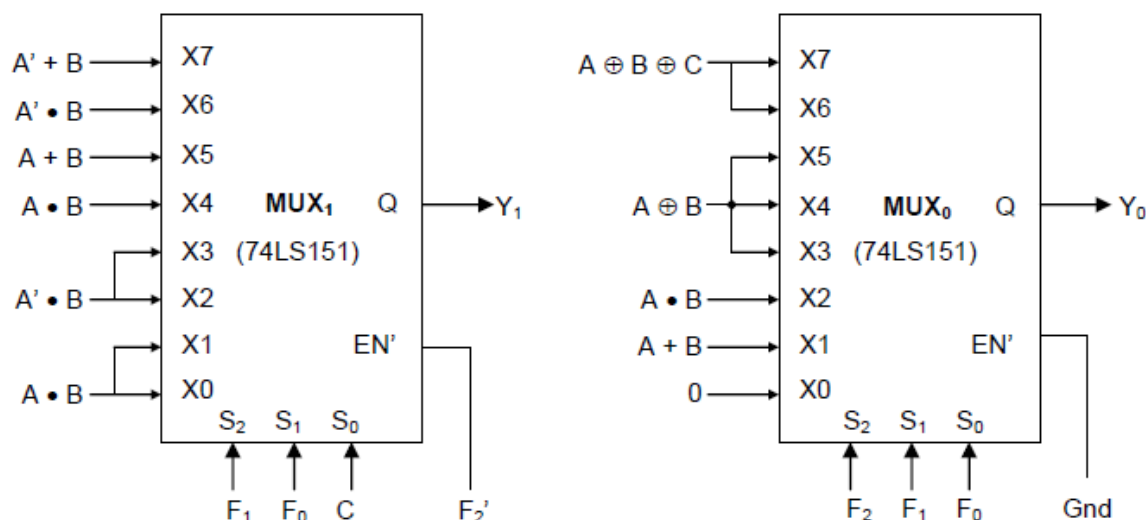

Fig. 3.2 Input connections for **MUX₀** and **MUX₁**
2. The final ALU output bits Y_0 and Y_1 will be generated by the two 8-input multiplexers – referred to as **MUX₀** and **MUX₁** respectively. The required data, select and output enable inputs of **MUX₀** and **MUX₁** are shown in **Fig. 3.2**. Note that **MUX₀** is always
5. Assemble the complete circuit by adding two 74LS151 chips, used as **MUX₀** and **MUX₁**, to the circuit assembled so far, making connections to all the inputs of **MUX₀** and **MUX₁** according to **Fig. 3.2**. Use a third gate from the XOR chip to generate $F_2' (= F_2 \oplus 1)$, providing the Enable input for **MUX₁**.